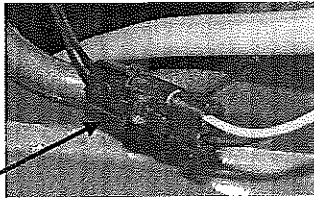

Figure 4
6. Disconnect the holding valve coil wire from the unit. See Figure 4.